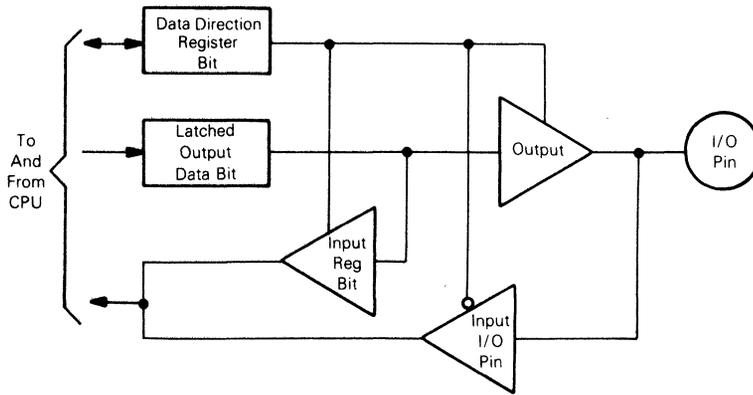

Fig. 11 - Typical I/O port circuitry
**PA0-PA7** — These eight pins constitute Input/Output Port A. Each line is individually programmed to be either an input or output under software control via its Data Direction Register as shown below. An I/O pin is programmed as an output when the corresponding DDR bit is set to a "1," and as an input when it is set to a "0". In the output mode the bits are latched and appear on the corresponding output pins. An MPU read of the port bits programmed as outputs reflect the last value written to that location. When programmed as an input, the input data bit(s) are not latched. An MPU read of the port bits programmed as inputs reflects the current status of the corresponding input pins. The Read/Write port timing is shown in Figure 3. See typical I/O Port Circuitry in Figure 11. During a Power-On Reset or external RESET all lines are configured as inputs (zero in Data Direction Register). The output port register is not initialized by reset. The TTL compatible three-state output buffers are capable of driving one standard TTL load and 50 pF. The DDR is a read/write register.